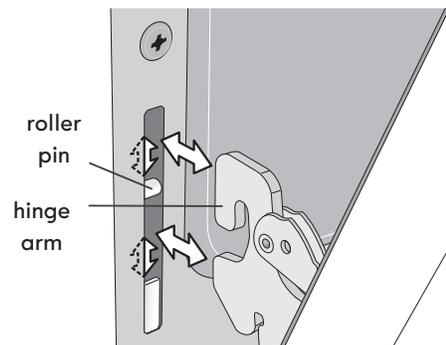

Figure 32: Hinge pin locations
5. With the oven door in the broil stop position, lift the oven door hinge arms over the roller pins located on each side of the oven frame (Figure 32).
2. Holding the oven door at the same angle as the removal position, seat the hook of the hinge arm over the roller pins located on each side of the oven door frame (Figure 32). The hook of the hinge arms must be fully seated onto the roller pins.